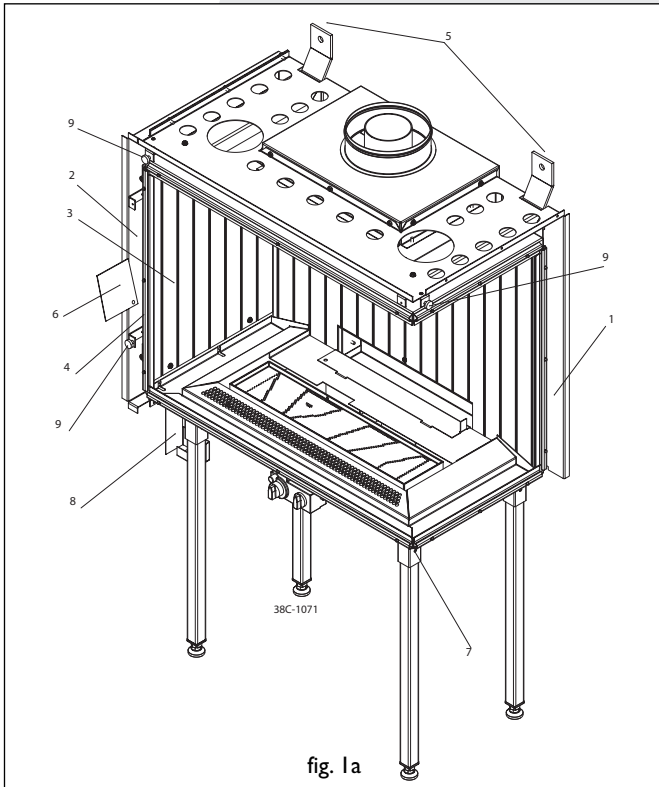

fig. 1a
If you have bought an interior with a side pane on the right, position the magnets as in fig. 1a (9). If you have an interior with a side pane on the left, position the magnets in the exact position.
Do this as follows (see fig. 1a):